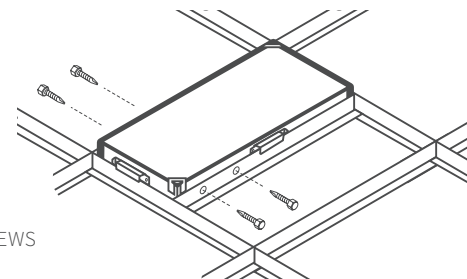

FIGURE 8:
1. Locate the four (4) self-drilling sheet metal screws.
2. Utilizing existing holes on the vertical section of the ceiling rail (center of the hole to the base of the rail must be a minimum of 0.6", drill two screws on each 2' side of the TCQ (see figure 8). Drilling these screws into the designated areas of the TCQ chassis will not cause harm to the product.
1. Locate the four (4) self-tapping sheet metal screws.
2. Utilizing existing holes on the vertical section of the ceiling rail (center of the hole to the base of the rail must be a minimum of 15mm - see figure 8), drill two screws on each 600mm side of the TCQ (see figure 15). Drilling these screws into the designated areas of the TCQ chassis will not cause harm to the product (see figure 15).